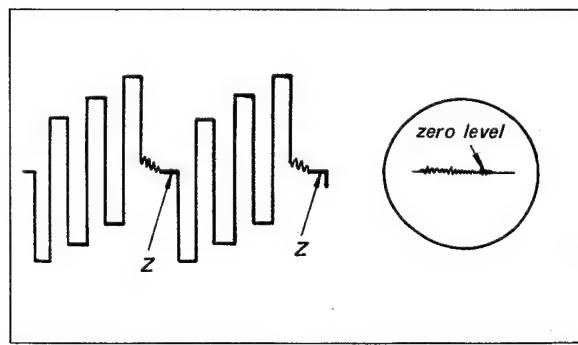

Fig. 4-19.
| <ol style="list-style-type: none"> <li>1. Receive the colour-bar signal.</li> <li>2. Set the contrast control at fully clockwise position (maximum contrast) and the tint control at the mechanical centre position.</li> <li>3. Connect a scope to the collector of Q313.</li> <li>4. Turn off the colour control and note the zero level line.</li> <li>5. Turn the colour control fully clockwise.</li> </ol> | T304T305  | <ol style="list-style-type: none"> <li>1. Adjust T305 until the position of zero level (Z) of B-Y waveform becomes same as the zero level line which was indicated at step 4 as shown in Fig. 4-19.</li> <li>2. Adjust T304 to make the B-Y waveform symmetrical on the scope as shown in Fig. 4-19.</li> </ol> |